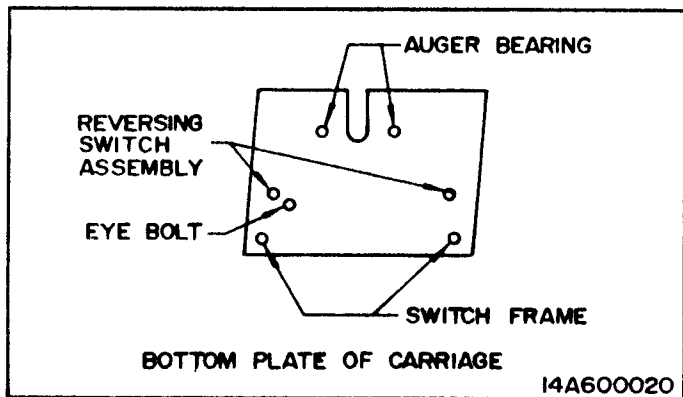

FIG. 5 - BOLT HOLE IDENTIFICATION
3. Bolt reversing switch onto bottom of carriage nearest center of bin. See Figs. 5, 8, 23.